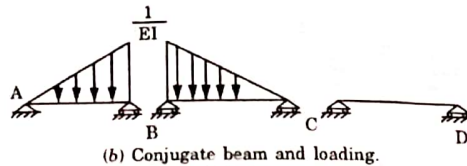

Fig. 20.
- i. Unit force is applied in determinate structure in the coordinate direction 1 as shown in Fig. 20(a). Conjugated beams and loading on them are as shown in Fig. 20(b).